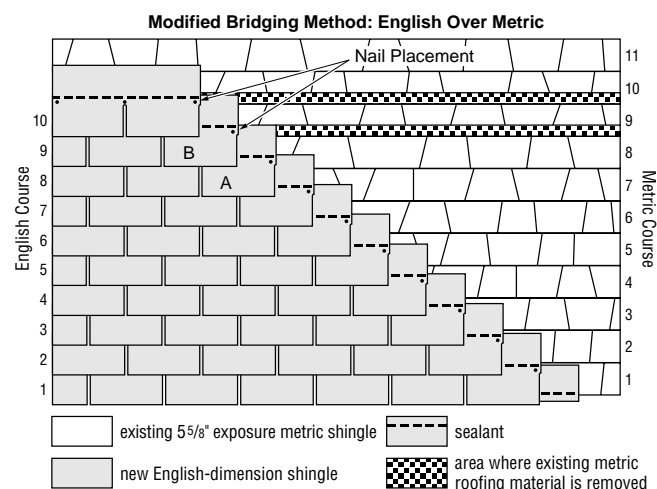

Figure 12-23: Reroofing using standard 12" x 36" shingles over metric shingles.
A standard metric shingle is typically exposed  $5\frac{5}{8}$ " to the weather. The illustration (Figure 12-23) shows an idealized method used to reroof with a 12" by 36" English-dimension shingle.
To eliminate the problem, you must cut and remove, at the metric shingle's eighth course, approximately 2" of the leading edge of the next metric shingle up the roof, so that the English-dimension shingle nests smoothly. Do the same for the metric shingle's ninth course; the 10th course may naturally meet the butt edge of the shingle above (Figure 12-23). Repeat this method on every eighth and ninth metric course up the roof. Counting from the first metric course, this means the 17th and 18th courses would also be cut back, as would the 25th and 26th, and so on.
**NOTE:** On an actual roof the course exposures will vary, so the directions above may need to be modified. An important **rule of thumb** is this: Each time the top edge of the English shingle overlaps the bottom edge of a metric shingle course by less than 1½", as shown by shingles "A" and "B" in Figure 12-23, cut that metric shingle back by 2" (or to fit) to allow the top edge of the English shingle to nest smoothly below it.